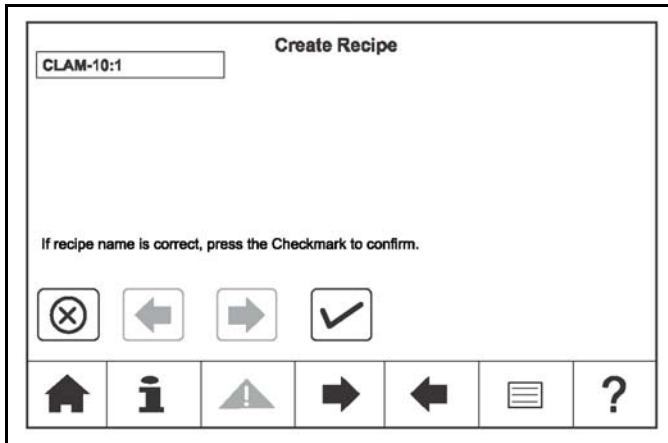

Figure-77
15. If the recipe name is correct, press the Checkmark key to confirm. If the name is not correct, press the menu item under Create Recipe. See Figure-77.